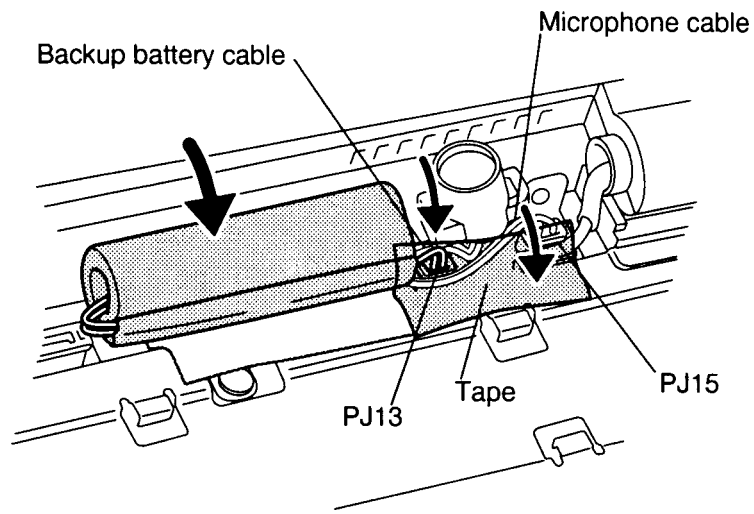

Figure 4-20 Installing the backup battery
3. Connect the **backup battery cable** to **PJ13** on the upper system board. Wrap the **microphone cable** under the backup battery connector and bring it in front of the microphone to connect it to **PJ15** on the upper system board (Figure 4-20).
4. Lay the **backup battery** and cables in place on the computer and secure them with **tape** (Figure 4-20).